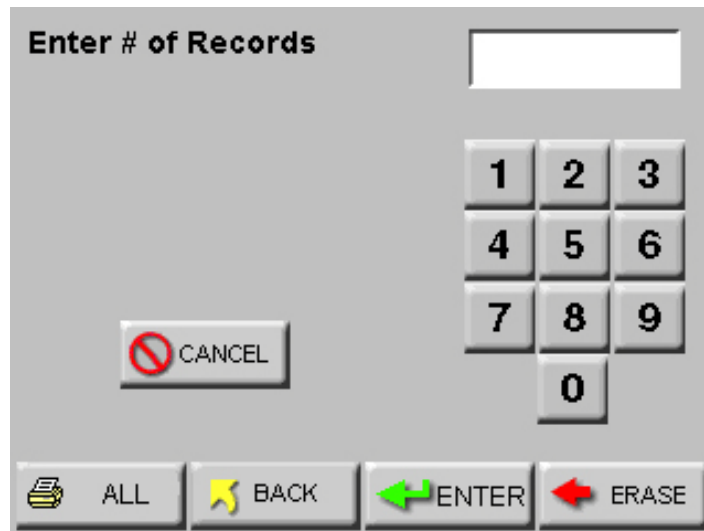

Figure 4-55 Print Range Screen
- Press the RANGE button. The following screen will display. See Figure 4-55.